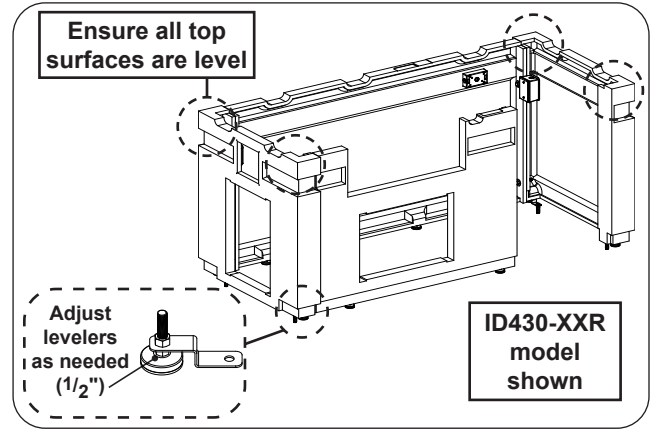

Fig. 9-1 Level assembly
1. Use the level to ensure the top surfaces of the assembly are level. The levelers at the bottom of the island may be adjusted as needed with a $\frac{1}{2}$ " open end wrench. See Fig. 9-1.